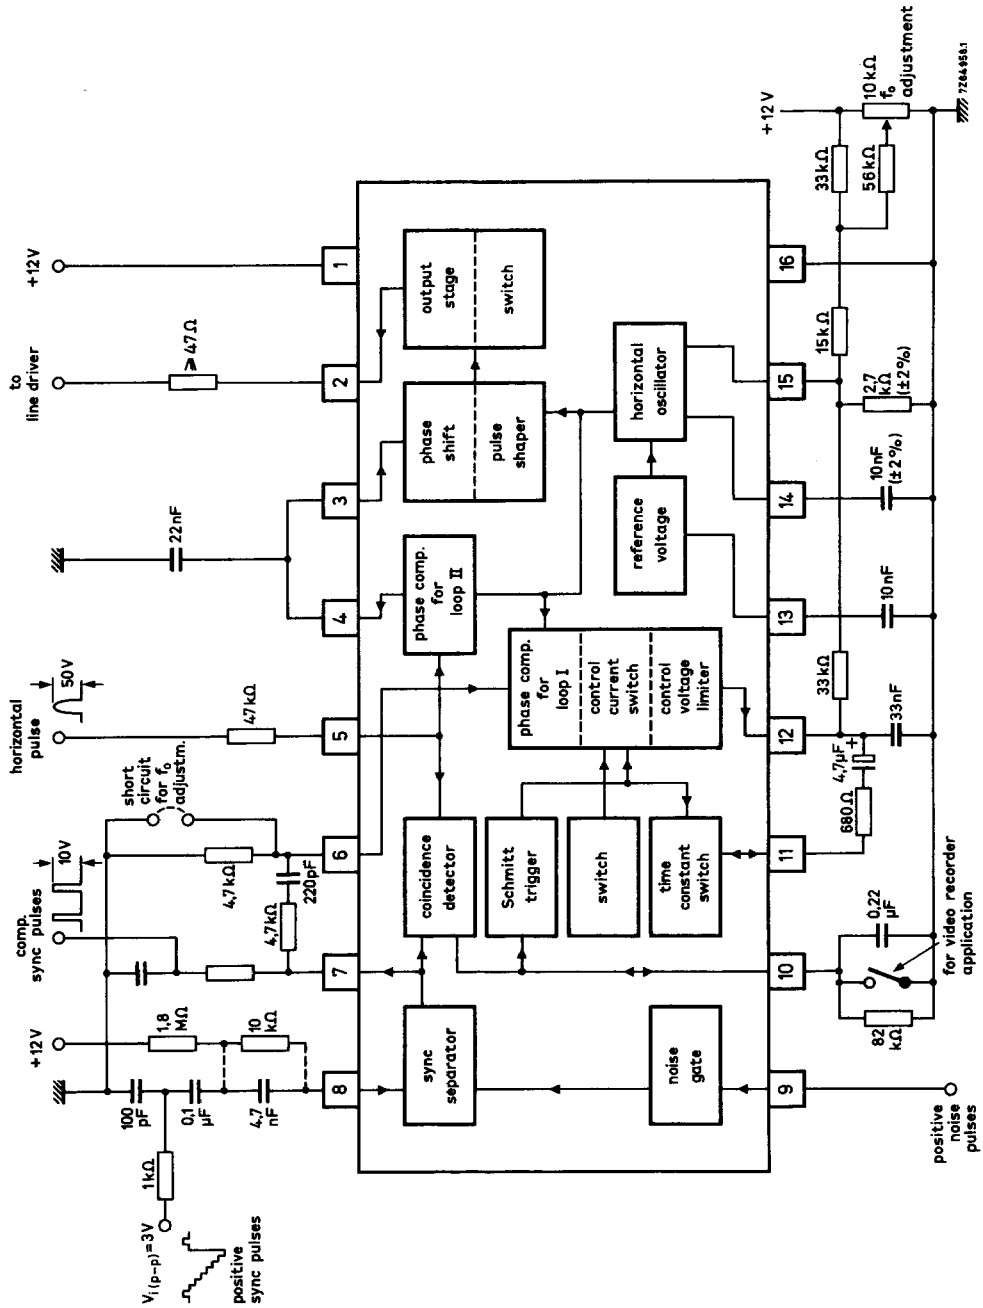

Fig. 1 Block diagram and application information.
CHARACTERISTICSAt V₁₋₁₆ = 12 V; T_{amb} = 25 °C. Measured in circuit of Fig. 1 (CCIR standard).
1. See Fig. 1.